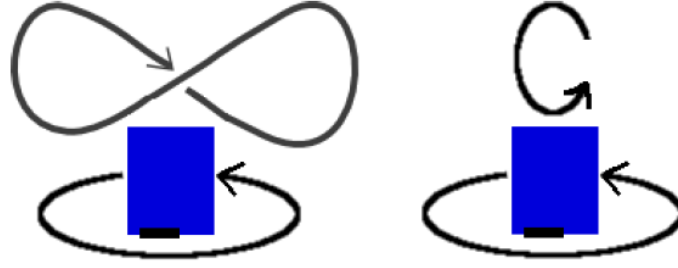

Figure 3: calibration movement: eight example.
3. Repeat the same procedure but, instead of rotating the sensor around a single axis, perform an 8 pattern. Refer to the left image of fig.3.